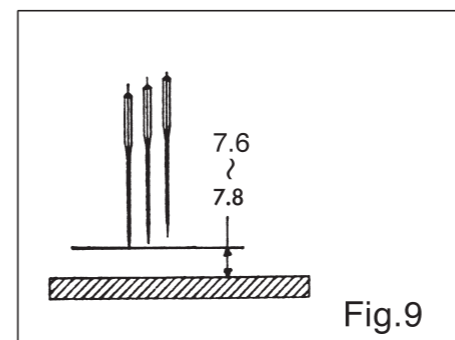

Fig.9
1. Please lift the Needle Bar to the highest position. During this time, the standard height between the longest right needle point and Needle Plate are 7.6~7.8 mm. (Fig. 9)